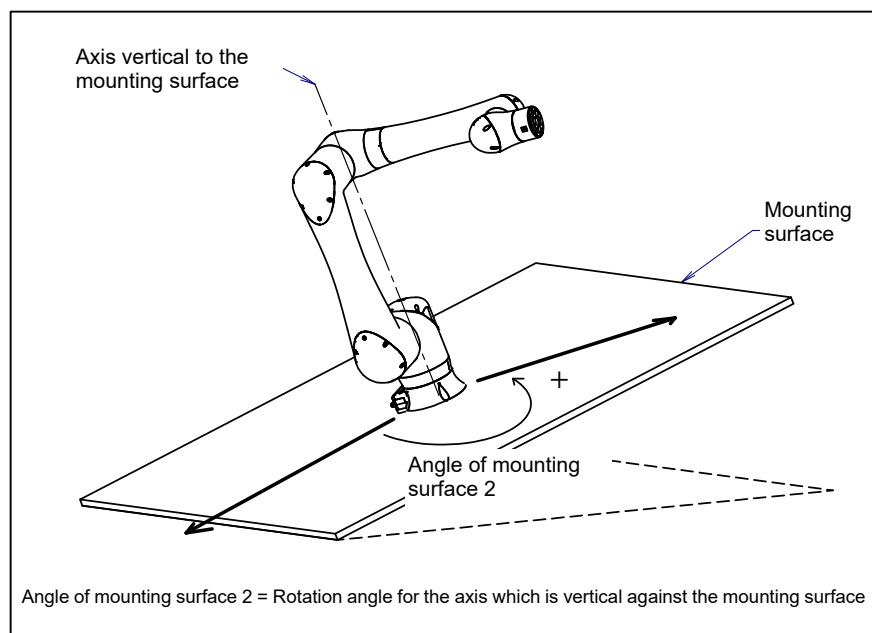

Fig. 1.2.1 (e) Mounting angle
- 9 According to Fig. 1.2.1 (e), input the angle of mounting surface 2.